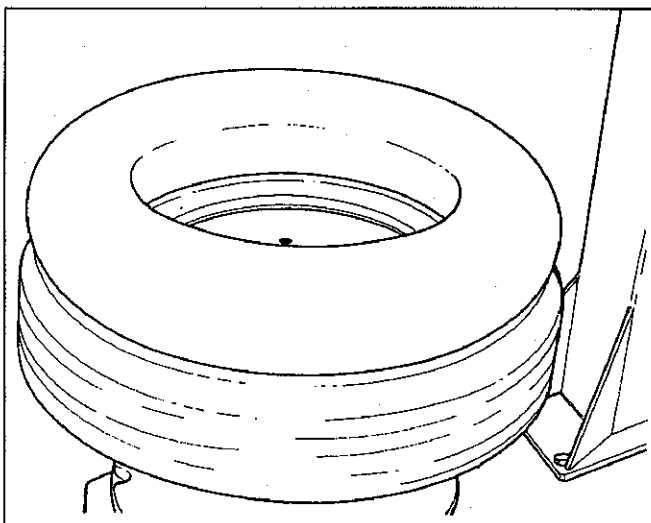

Fig.26
B. Confirm that the tube is designed for tires(Fig.26).